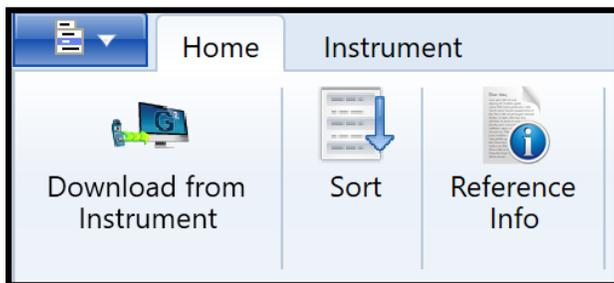

Figure 8
- Guardian² Home Menu (Figure 8)